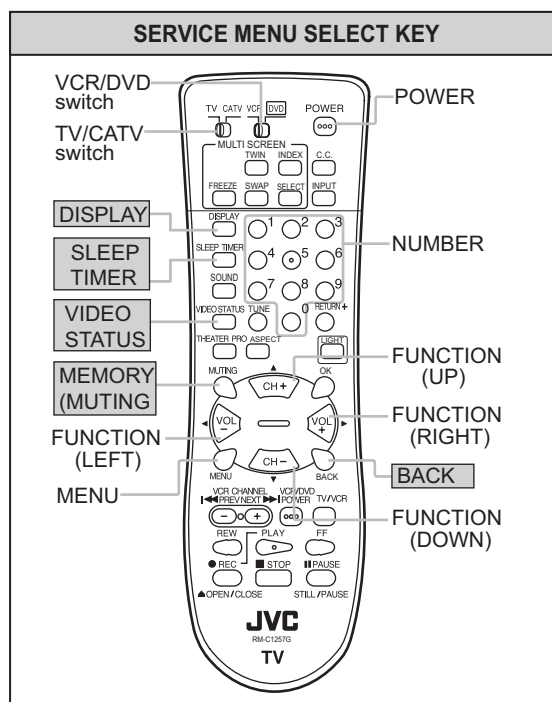

Fig.2
- a) Press [SLEEP TIMER] key and, while the indication of **SLEEP TIMER 0 MIN** is being displayed, press [DISPLAY] key and [VIDEO STATUS] key (Fig.2) simultaneously.